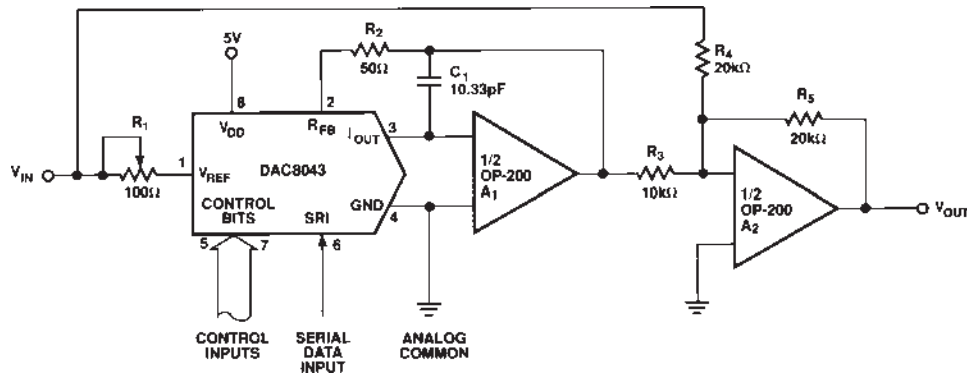

Figure 8. Bipolar Operation (4-Quadrant, Offset Binary)
1. Nominal full scale for Figure 8 circuit is given by
2. Nominal LSB magnitude for Figure 8 circuit is given by
Figure 8 details a suggested circuit for bipolar, or offset binary, operation. Table II shows the digital input to analog output relationship. The circuit uses offset binary coding. Two's complement code can be converted to offset binary by software inversion of the MSB or by the addition of an external inverter to the MSB input.